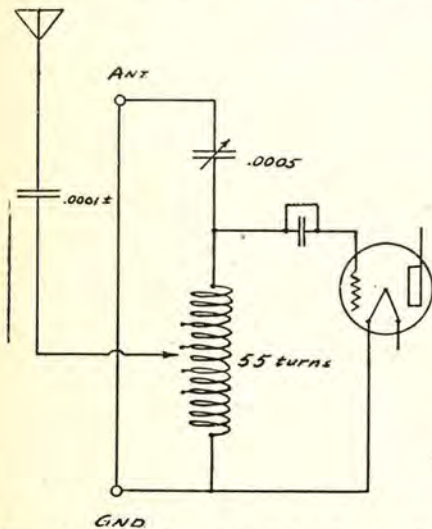

Fig. 1. Improving Selectivity by Putting Condenser in Antenna Lead.
1. By shunting the tuning inductance with the variable condenser and the insertion of a small fixed (or variable) condenser in the antenna lead (Fig. 1).
In Fig. 1, the antenna and ground posts of the usual single circuit are "short-circuited" by a piece of wire, and the antenna lead is brought to one terminal of a .0001 mfd. fixed condenser, the other side of the condenser being connected to the switch arm. If the bearing of the switch lever is connected to a panel "grounded" shield, the shield must be cut away around the bearing. When the lever is placed on the tap at the grid end of the tuning coil in
Fig. 1, we practically have the same old single circuit, but when placed on a tap nearer the filament end of the tuning coil, we have in effect a double circuit tuner. Trial of various taps is necessary to find which gives the greatest volume coupled with selectivity, the fewer turns in the "untuned primary" the greater the selectivity (with less volume) as a rule.